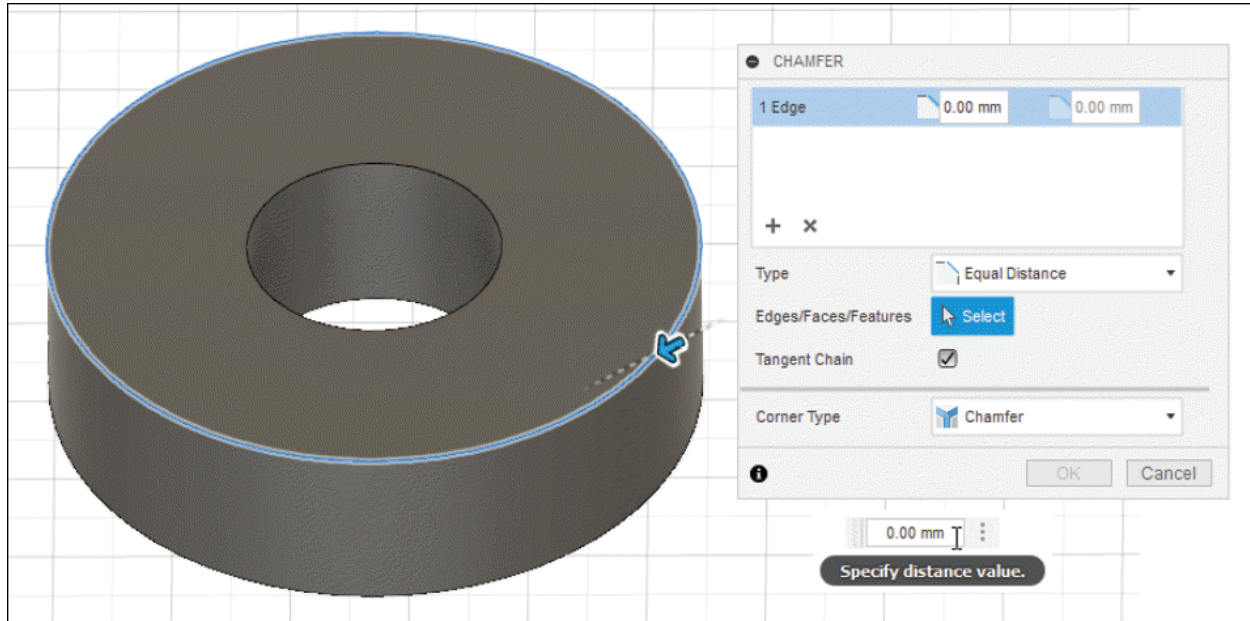

Figure-22. Updated CHAMFER dialog box
- **Edges/Faces/Features** selection is active by default. Click on the edge of model to apply chamfer. The updated **CHAMFER** dialog box will be displayed; refer to Figure-22.